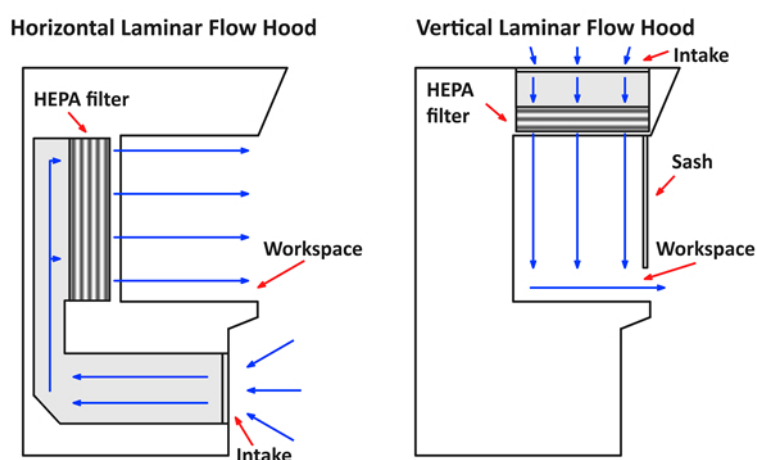

Figure 1. Diagrams of horizontal and vertical laminar flow hoods.
- There are two types of laminar flow cabinets: horizontal flow and vertical flow ( **Figure 1**). Horizontal flow cabinets blow clean air from the back face of the cabinet horizontally toward the user, whereas vertical flow hoods blow clean air from the ceiling of the cabinet toward the floor of the workspace where it then hits the base and flows in a horizontal direction towards the user. Vertical flow cabinets are used with the sash pulled down. Horizontal flow cabinets do not have a sash. Both types of laminar flow cabinets have their advantages and disadvantages.